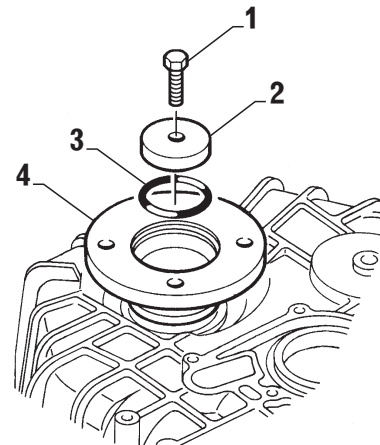

FIG. 4-1
Unscrew hex head bolt (item 1, Fig. 4-1).
Remove disc (item 2, Fig. 4-1) and O-ring (item 3, Fig. 4-1).
Screw hex bolt (item 1, Fig. 4-1) in again.